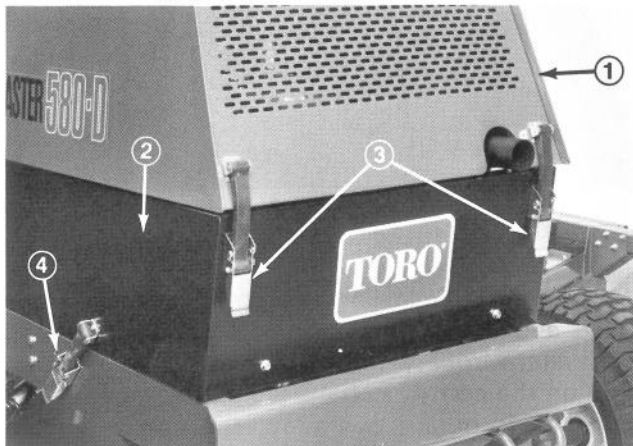

Figure 29
1. Unlatch and raise hood and prop it open (Fig. 29). Unlatch and remove left side panel ((Fig. 29). Make sure hood prop is secured in one of the mounting brackets on hood.
1. Unlatch and raise hood and prop it open (Fig. 29). Make sure hood prop is secured in one of the mounting brackets on hood. Unlatch and remove both side panels (Fig. 29).